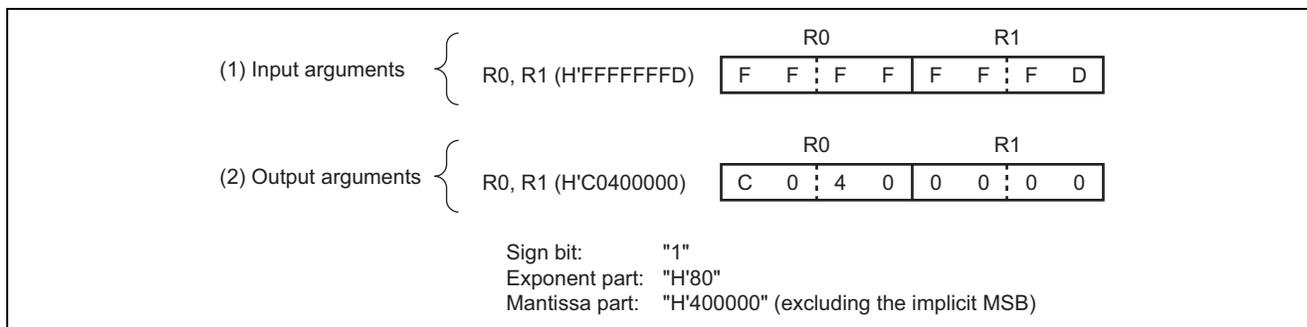

Figure 1 Example of Software KFTR Execution
The clock cycle count (346) in the specifications is for the example shown in figure 1.